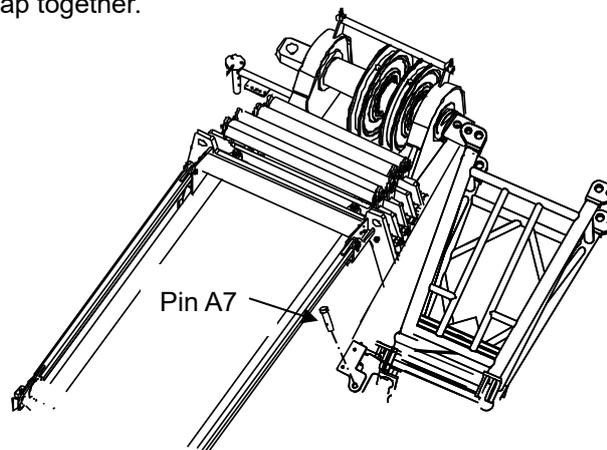

Figure 5-8 Pin A7 of front bracket removal
- j) Remove the pin A7 of the front bracket. See Figure 5-8. Manually rotate the jib to the pin of main boom to overlap together.